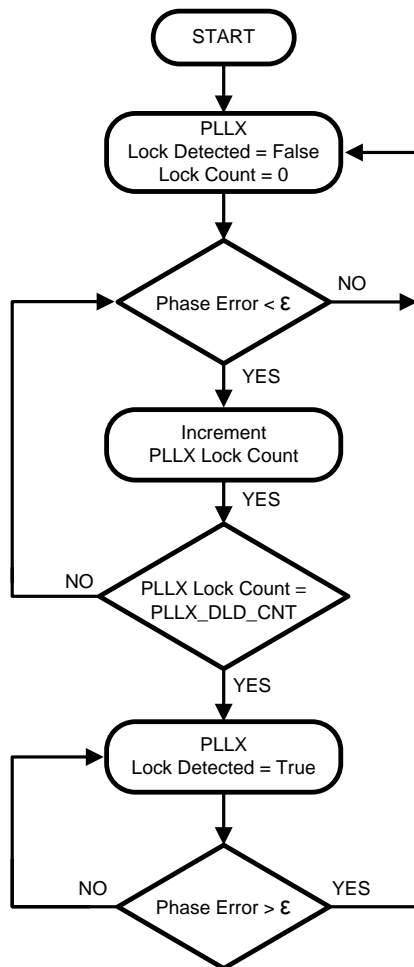

Figure 10. Digital Lock Detect Flowchart
Both PLL1 and PLL2 support digital lock detect. Digital lock detect compares the phase between the reference path (R) and the feedback path (N) of the PLL. When the time error, which is phase error, between the two signals is less than a specified window size ( $\epsilon$ ) a lock detect count increments. When the lock detect count reaches a user specified value lock detect is asserted true. Once digital lock detect is true, a single phase comparison outside the specified window will cause digital lock detect to be asserted false. This is illustrated in Figure 10.